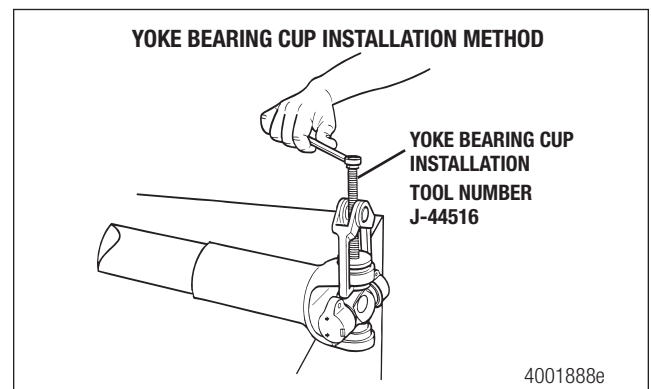
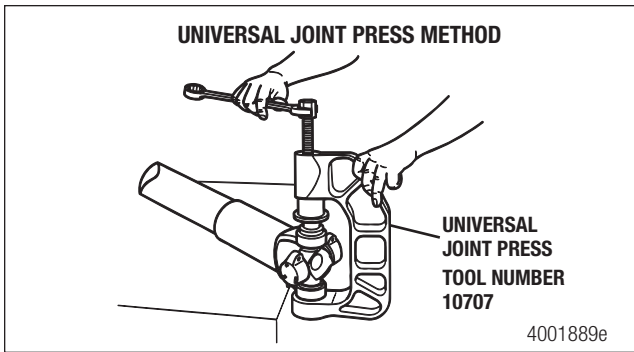
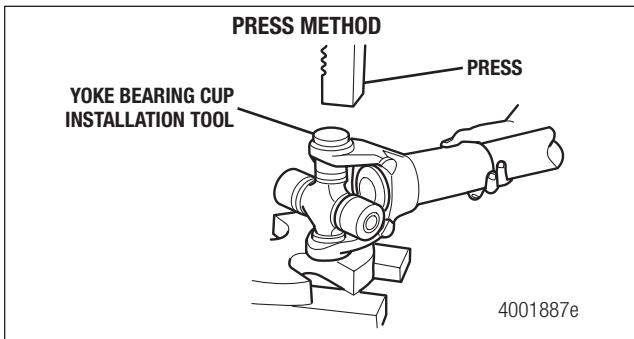

Figure 5.55
Figure 5.56
Figure 5.57
- Use a press, yoke bearing cup installation tool (SPX Kent-Moore tool number J-44516) or universal joint press (Tiger Tool number 10707) to install the first round bushing slightly past the snap ring groove. When the bearing cup installation tool contacts the yoke, it is installed correctly. Figure 5.55, Figure 5.56 and Figure 5.57.
- Use a press, yoke bearing cup installation tool (SPX Kent-Moore tool number J-44516) or universal joint press (Tiger Tool number 10707) to install the second round bushing slightly past the snap ring groove. Check that the bushing is aligned with the universal joint. Figure 5.55, Figure 5.56 and Figure 5.57.